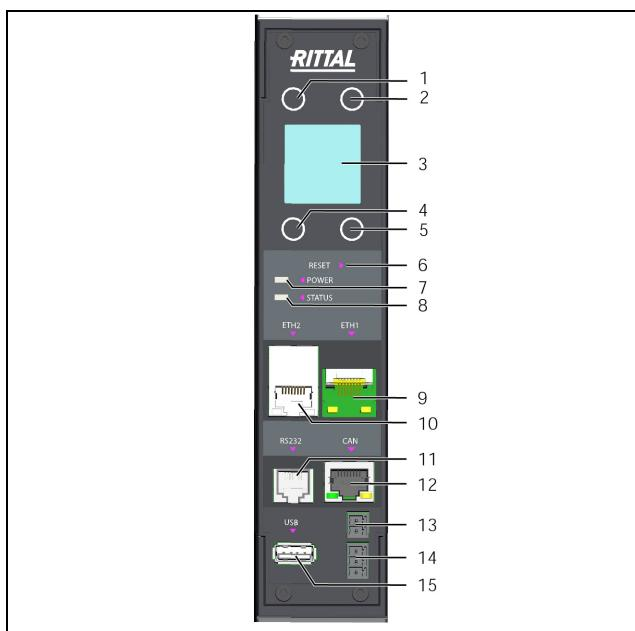

Fig. 15: Control and display elements and connections of the PDU metered/metered plus/switched/managed/RCM
After connecting the PDU to the power supply, the green power LED (fig. 15, item 7) will be illuminated, and the PDU will start to boot automatically.
If connected to a network, the Link and Status LEDs on the RJ 45 jack will be illuminated (fig. 15, item 9 and item 10).
After a few seconds, the multi-LED for status display will start to flash blue, indicating that booting is in progress (fig. 15, item 8).